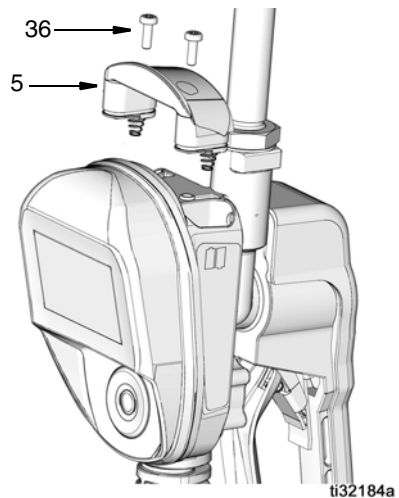

FIG. 36
5. Replace cover (5) and screws (36). Do not over-tighten screws (FIG. 36).